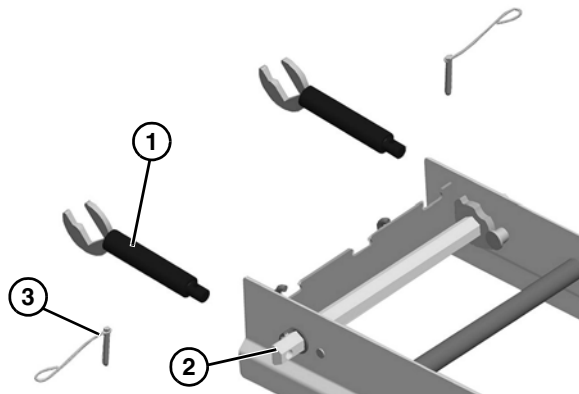

Figure 23
- Attach nose bar idler shaft hands (**Figure 23, item 1**) to the tip up shaft (**Figure 23, item 2**) with a pull pin (**Figure 23, item 3**).